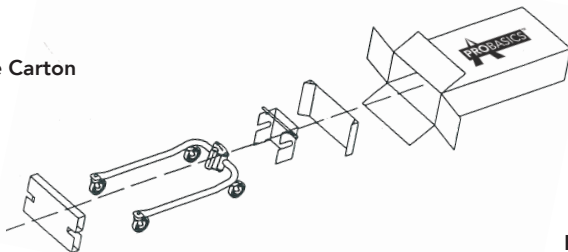

Fig. 2
If you plan on only using the Patient lift for a short time or plan on shipping it to another facility, retain all boxes, containers and packing material for storage and/or shipment. See Fig. 2.
- 3) See Fig. 2 for repackaging instructions.